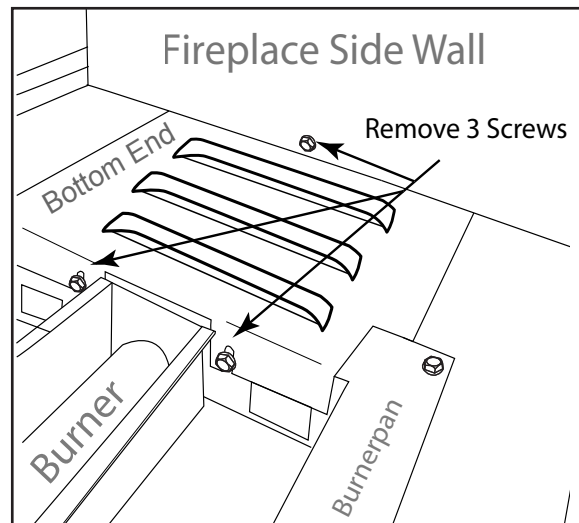

Fig. 2 Removal of burner pan screws.
RECOMMENDATION: Once the gas line is established it is recommended to remove the burner pan from the firebox until the fireplace is in the final stages and ready for the burner installation. Burner pan requires the removal of (4) screws at each corner of burner pan lip in addition to the (3) screws shown in Fig. 2.
Then lift the bottom end up and out from the side of the burner pan area. Fig. 2.
Step 3: Remove the four (4) screws (two on each end) out from the burner pan. They are located at the outer edge of the burner pan, on each corner (See Fig. 2).